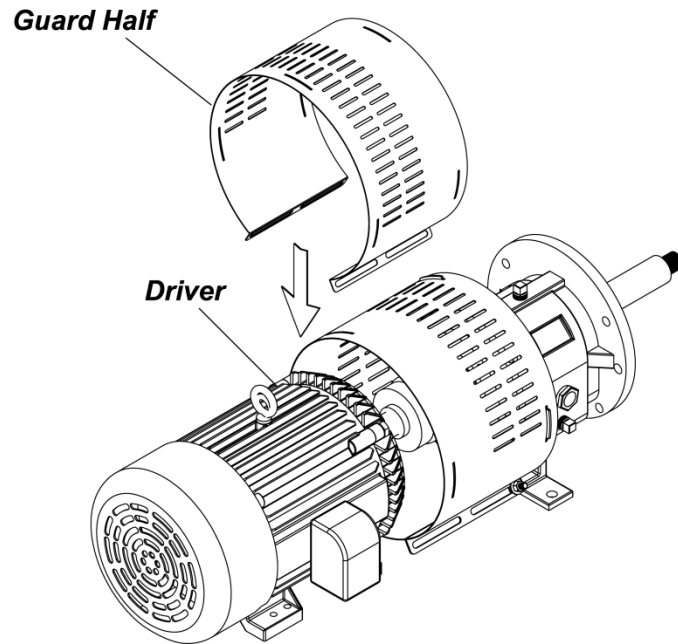

**Figure 12-6: Secure around Pump End Plate**
3. After placing the coupling guard half (pump end) around the pump end plate, secure it with a bolt, nut and two (2) washers through the round hole in the front end of the guard half as shown in Figure 12-6. Tighten securely (See Figure 12-7).